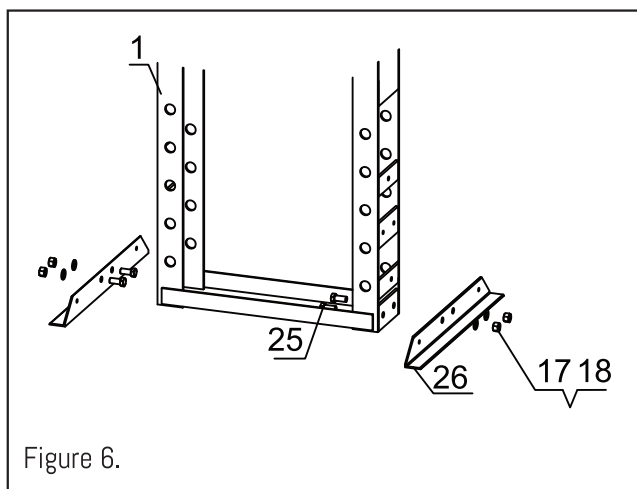

Figure 6.
2. Place the Frame (1) in the upright position. Slide each Base Support (26) under the Frame. Line up the bolt holes and insert the Bolts (25) through the Frame and Base Support, then secure in place with the Washers (17) and Nuts (18). See Figure 6.